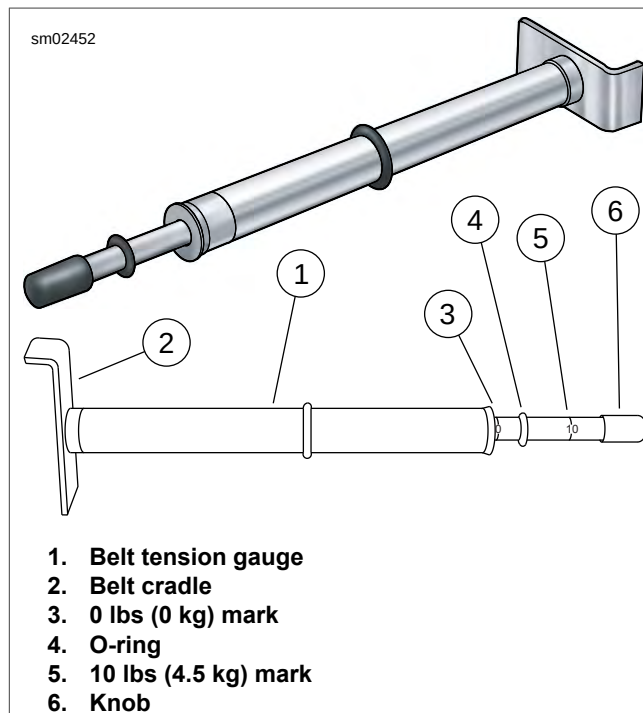
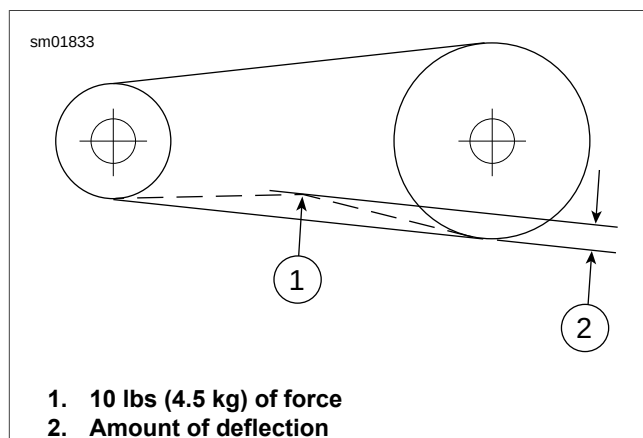

Figure 1-22. Belt Tension Gauge
Figure 1-23. Checking Belt Deflection
1. See Figure 1-22. Obtain BELT TENSION GAUGE (Part No. HD-35381-A).
- a. Slide O-ring (4) toward 0 lbs (0 kg) mark (3).
- b. See Figure 1-23. Fit belt cradle (2) against bottom of drive belt half-way between drive pulleys.
- c. Press upward on knob (6) until O-ring slides down to 10 lbs (4.5 kg) mark (5).
3. See Figure 1-23. Check drive belt deflection. Apply 10 lbs (4.5 kg) of force upward at point 1.